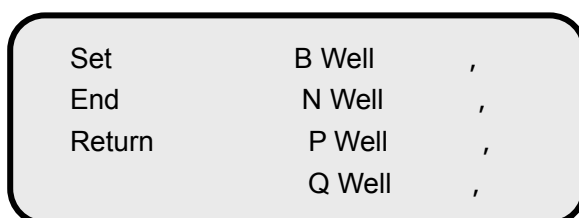

Fig. 13: Wells Setting (1)
2. If the reagent specification has no requirement, you can press **Enter** key to go to the sub menu (Fig. 13);
4. At this time, the symbol in front to **Continue** becomes \leftarrow . If you want to continue to program, press **Enter** key to enter the interface of wells setting (Fig. 13). If you want to return to the main menu, press **Reset** key; if you want to return to the superior menu, press \leftarrow till the symbol in front of **Return** becomes \leftarrow and then press **Enter** key.